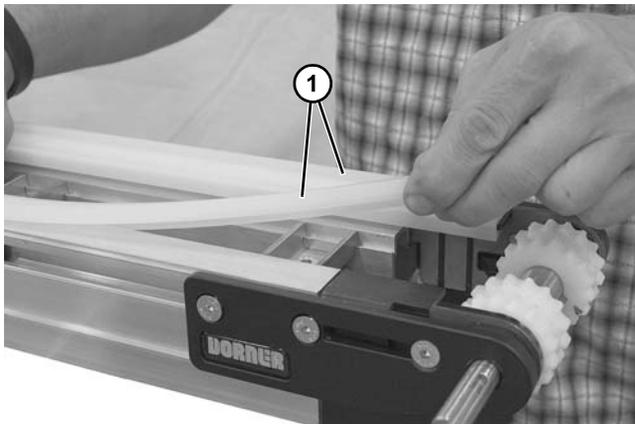

Figure 86
2. Remove upper wear strips (**Figure 86, item 1**).